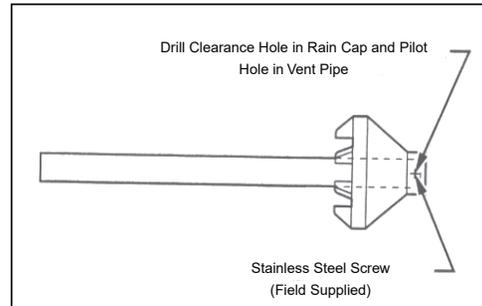

Fig.7-14 Rain Cap to Vent Pipe Alternate Assembly
- Secure assembly to roof structure as shown in Fig.7-14 using field supplied metal strapping or equivalent support material.